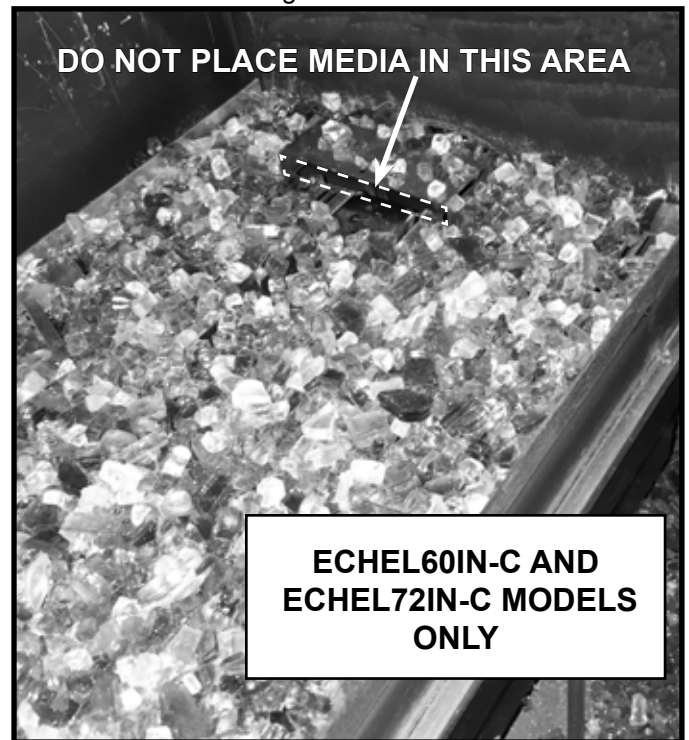

Figure 7. Media Placement Restriction Area
- ECHL60IN-C and ECHL72IN-C ONLY:** **DO NOT** place media in front of opening on right side of the burner (60 and 72 only). Flame appearance will be affected. See Figure 7.